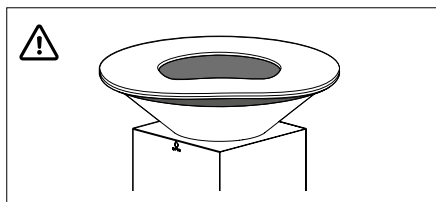

Fig. 1 - Warped cooking plate due to using too much tropical hardwood at the same time
- Be very careful with using tropical hardwood which becomes very hot. When using too much of it the plate might warp (see Fig. 1).